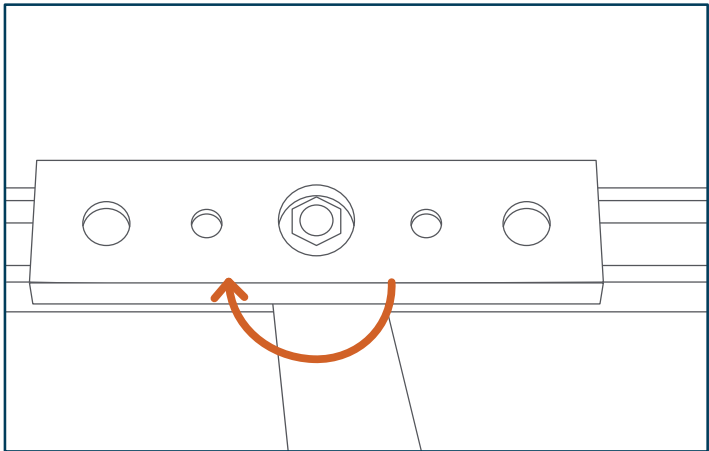

Fig. 2 - Fit up adjustment
- Step 4:** When the wheel/stud is loose enough, it can be rotated with a wrench, as shown in Fig. 2. Rotating the eccentric wheel's stud will adjust the wheel location into or out of mesh with the channel.